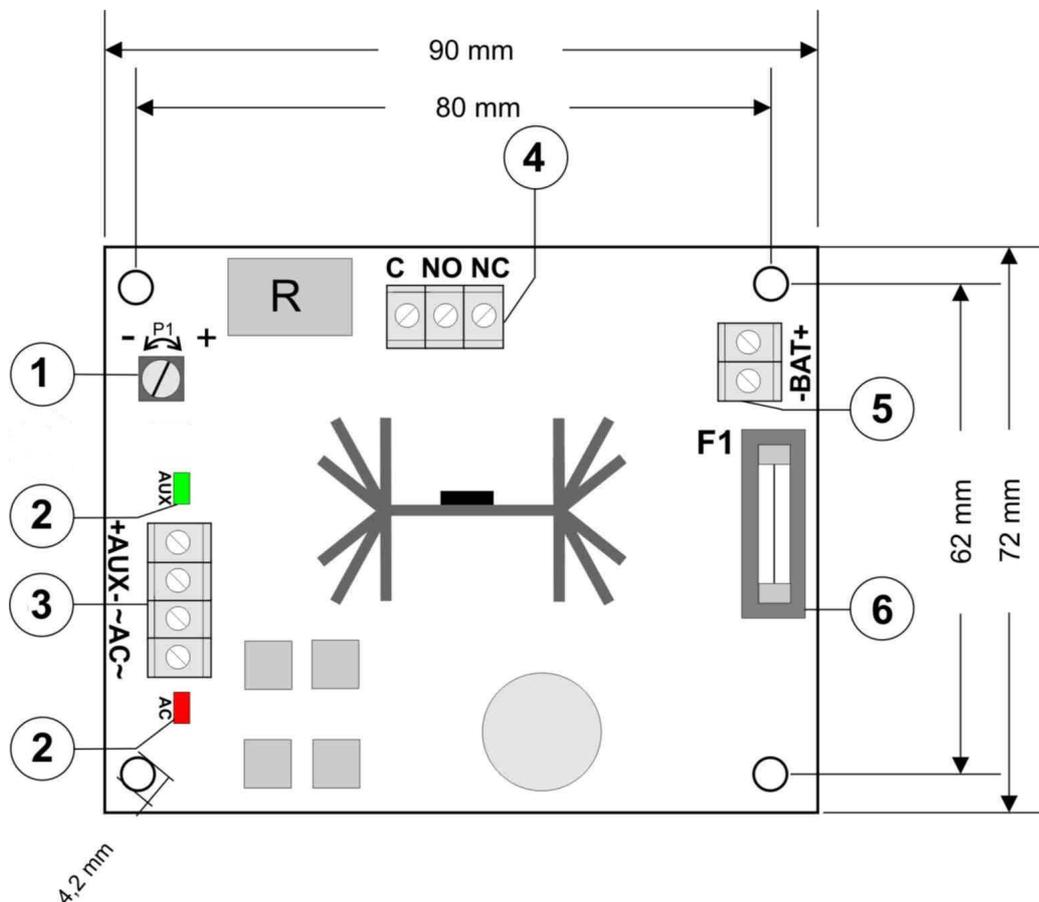

Fig.2. The view of the power-supply module.
1.3. Description of elements and connection links of the power-supply module (fig.2, tab.1, tab.2).
Element no. [Fig. 2]	Element description